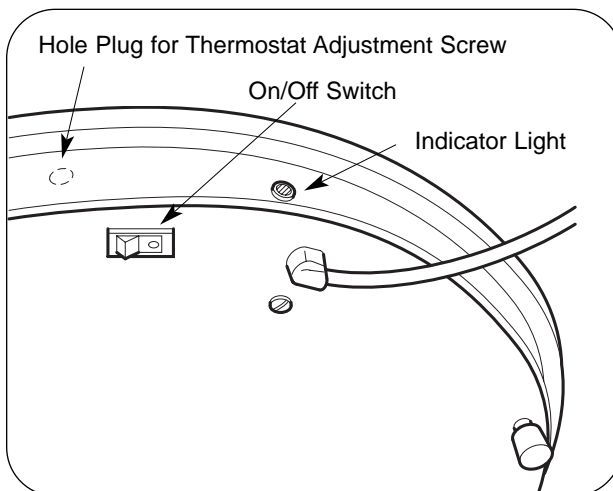

Figure 6. Controls
2. Turn the power switch to the ON position. See Figure 6. Indicator light will turn on when unit is energized.
*NOTE: Units are supplied from the factory with temperature control thermostat set on high. If temperature needs to be adjusted lower, carefully remove hole plug and turn thermostat adjustment screw counterclockwise until desired operating temperature is reached. See Figure 6.*